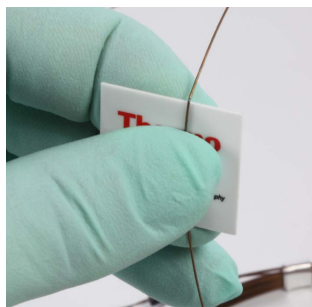

Figure 3: Completing step 2 of the metal column cutting procedure
2. Place the wafer behind the cut, supporting it as shown in Figure 3, and bend the column over the wafer (away from the cut side). The column should snap, making a clicking sound. The column is unlikely to break all the way through and will be attached on the uncut side.